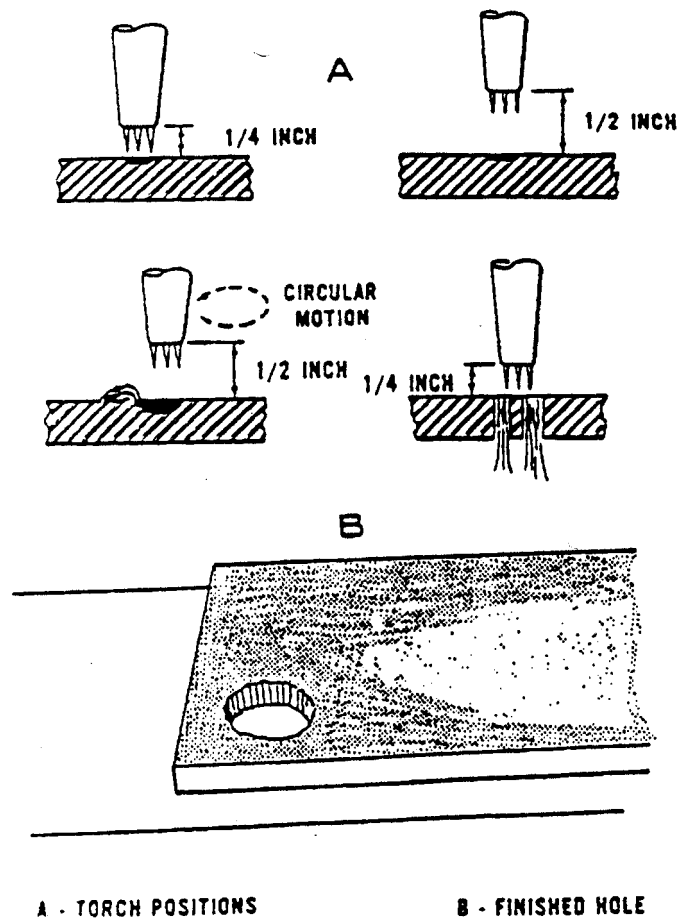

Figure 3-14 Hole burning
- (1) As soon as the metal is perforated, the torch is again lowered to the normal height above the work and the cut is completed. In piercing holes, do not allow slag to plug the cutting orifice (See **Figure 3-14.**)